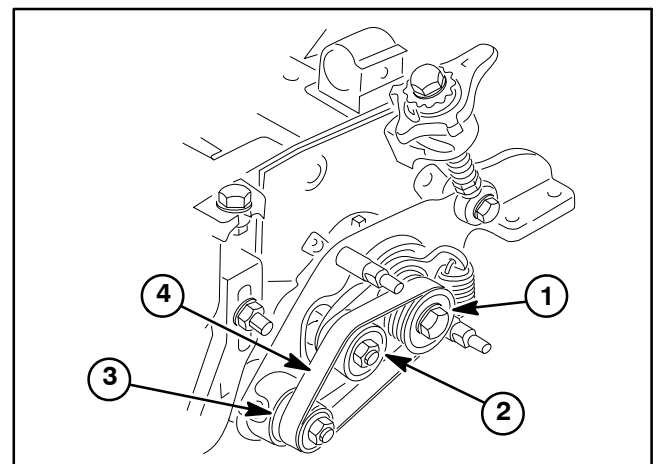

Figure 7
3. Remove groomer belt tension by pivoting idler plate and pulley using a wrench on pulley nut. Slip groomer drive belt off pulleys (Fig. 7). Carefully release idler plate and pulley.
4. Install new drive belt to drive pulley, idler pulley and driven pulley observing correct belt routing (Fig. 7). Make sure that groomer drive belt is above idler pulley after belt installation.
5. Install groomer cover and secure with two (2) flange nuts.